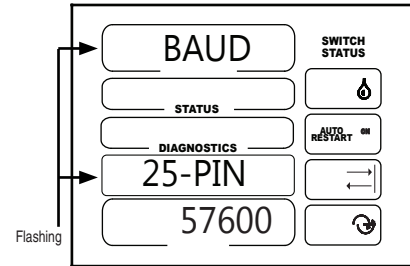

Figure 38-1
Settings include 300, 1200, 2400, 4800, 9600, 19200, 38400, 57600, and 115200 baud. The default is 57600 baud. See figure 38-1.
1. BAUD 25-PIN should be flashing. See figure 38-1.